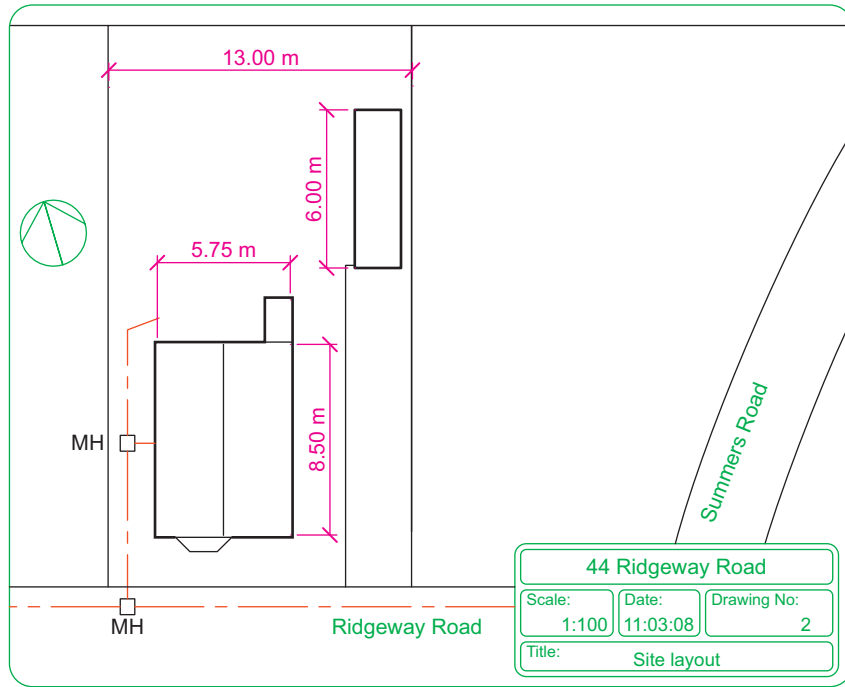

Fig. 16.2 A site layout plan
2. A site layout plan of the original house, drawn to a scale of **1:100** (Fig. 16.2).
Details of shapes and dimensions for the first two examples are taken from the drawings of the building and its extension at 44 Ridgeway Road given in the Figures 16.2 to 16.6 on pages 325 to 327.
Details of this first example are taken from Figures 16.2 to 16.4 on pages 325 and 326.